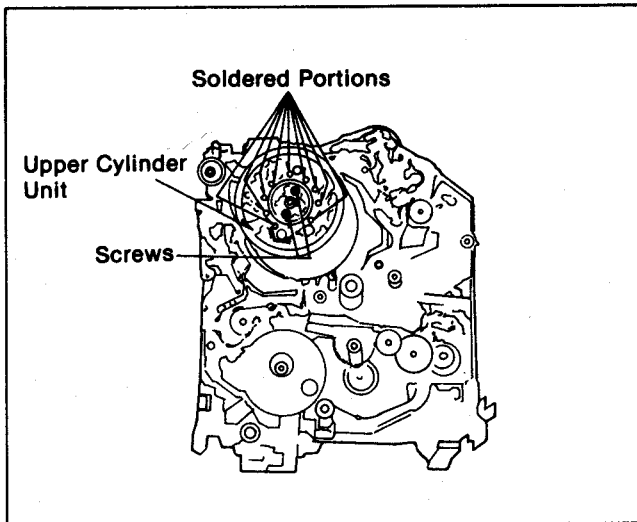

Fig. D9
1. Remove 2 screws as shown in Fig. D9.